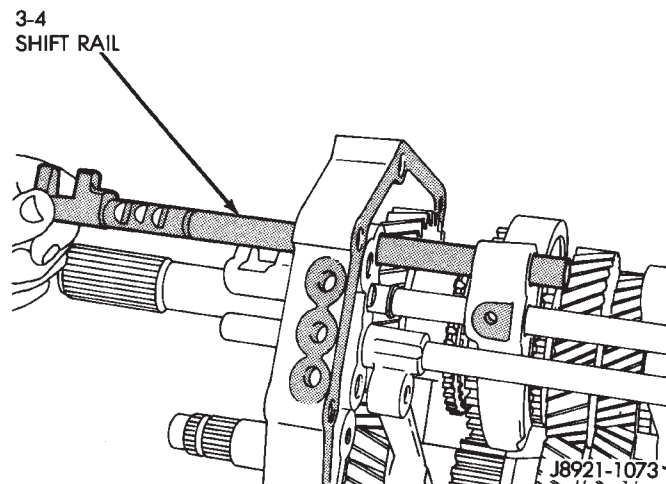

Fig. 71 Remove 3-4 Shift Rail
(23) Remove the 3-4 shift rail from the 1-2 and 3-4 shift forks and the intermediate plate (Fig. 71).